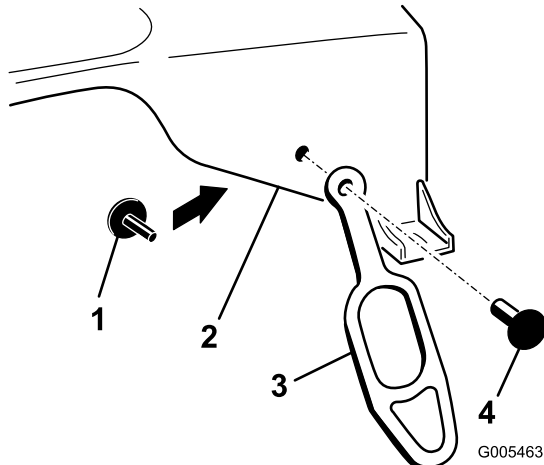

Figure 1
1. Install the retainer strap to the engine cover as shown in Figure 1. Secure the retainer to the cover using a panel fastener and interlock spacer (Figure 1)